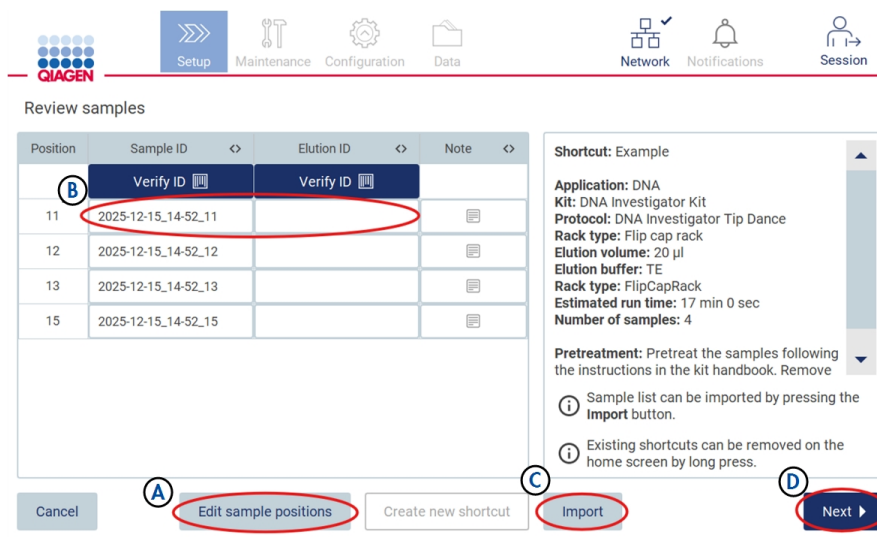

Figure 120. Review samples screen. (A) Edit sample positions, (B) Edit Sample IDs and add notes, (C) Import sample list, and (D) Next button to proceed.
2. The Review samples screen opens (Figure 120).
3. **Optional:** Edit the sample positions by tapping the **Edit sample positions** button (Option A in Figure 120).
4. **Optional:** Edit the sample positions by tapping the sample IDs or corresponding notes (Option B in Figure 120).
5. **Optional:** Import a sample list by tapping the **Import** button (Option C in Figure 120; further described in Section 5.5.8 Import sample list).
6. Proceed by tapping the **Next** button (Option D in Figure 120).